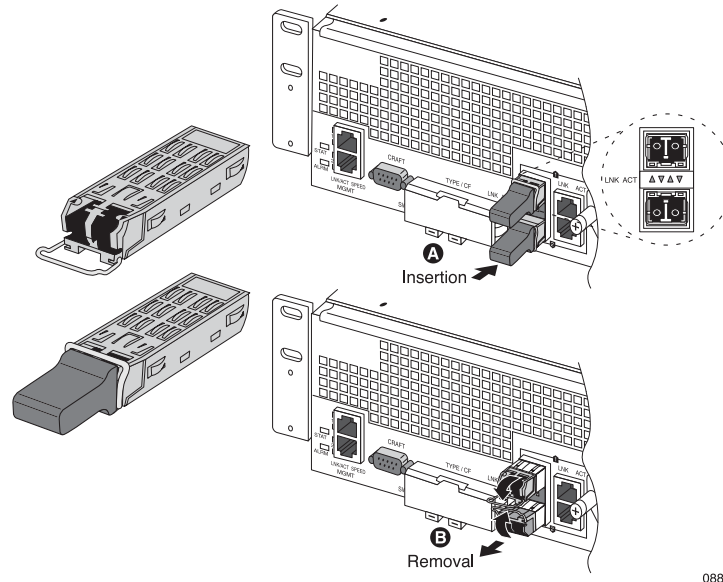

Figure 22 Inserting and Extracting an SFP Transceiver
3. With the transceiver connectors as shown in Figure 22, slide the transceiver into the opening for the port until the rear connector is seated and the locking mechanism snaps into place.